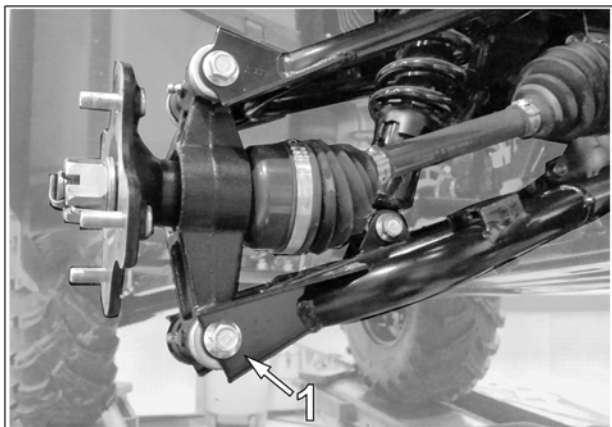

Fig. 6
5. Remove mounting bolt (1) linking lower suspension arm to wheel hub. See Fig. 6